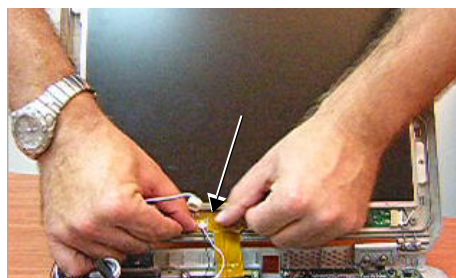

Figure 8-80 Disconnecting the Miniature Plug
- 4.) Disconnect the miniature plug from the cable connector below the LCD Display as shown in Figure 8-80.
- 1) Using the replacement Microphone Assembly, re-connect the miniature plug to the cable connector below the LCD Display (refer to Figure 8-80 on page 8-68).